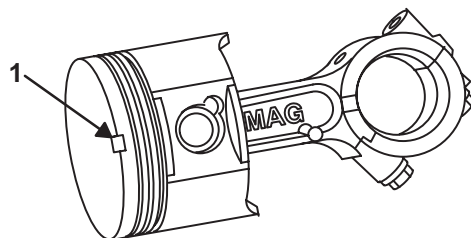

Fig. 124 – Assembling Piston and Rod
2. Determine correct position of connecting rod relative to notch or arrow on piston, Fig. 124.